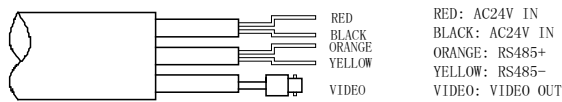
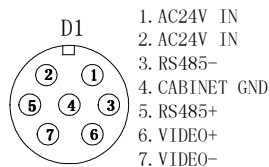

Figure 3
Figure 4
1. **Connection P/T with controller :** RS485 control signal 、 power supply(AC24V)、 video signal could connect with controller by air waterproof connector plug (D1). Figure 4 is Connect way of D1. Figure 3 is come out line of air connector plug.